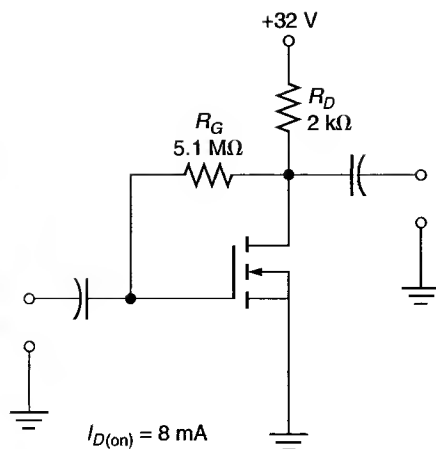

FIGURE 13.29
11. Calculate the values of I_D and V_{DS} for the amplifier in Figure 13.29.
Assume that the rated values of $I_{D(on)}$ in Figures 13.29 through 13.34 were measured at $V_{GS} = 2 \text{ V}$.